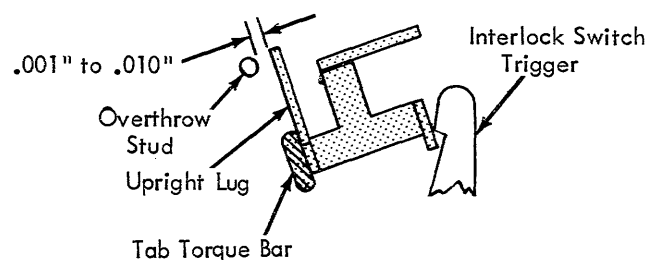

FIGURE 168. Torque Bar Overthrow Stud (New)
8. Torque Bar Overthrow Stud (Late) - With the tab cam on its high point, form the upright lug on the LH end of the tab torque bar for a clearance of .001" to .010" between this lug and the overthrow stud (Fig. 168).